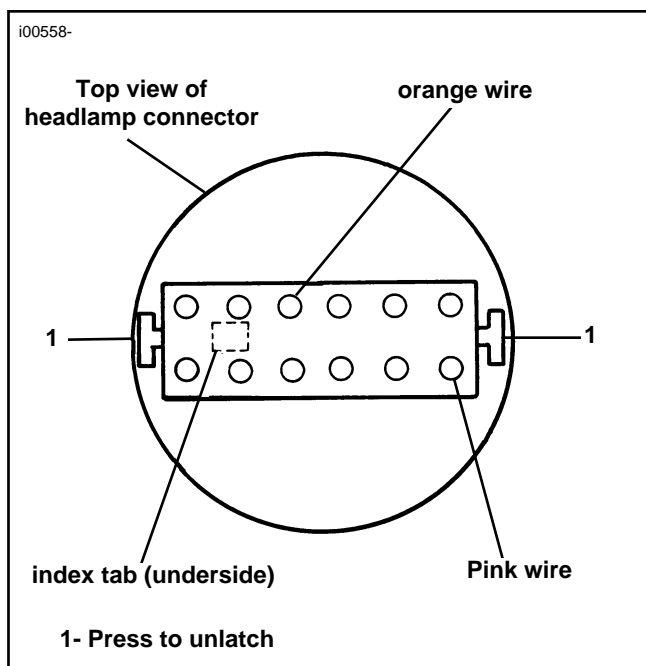

Figure 3. Tachometer Wiring
2. See Figure 3. Puncture the socket connector boot with the sockets of the orange and pink tachometer wires at the locations shown and install the sockets through the boot into the socket connector at the proper locations. Make certain that the socket pin terminals are seated and locked in the socket terminal housing.